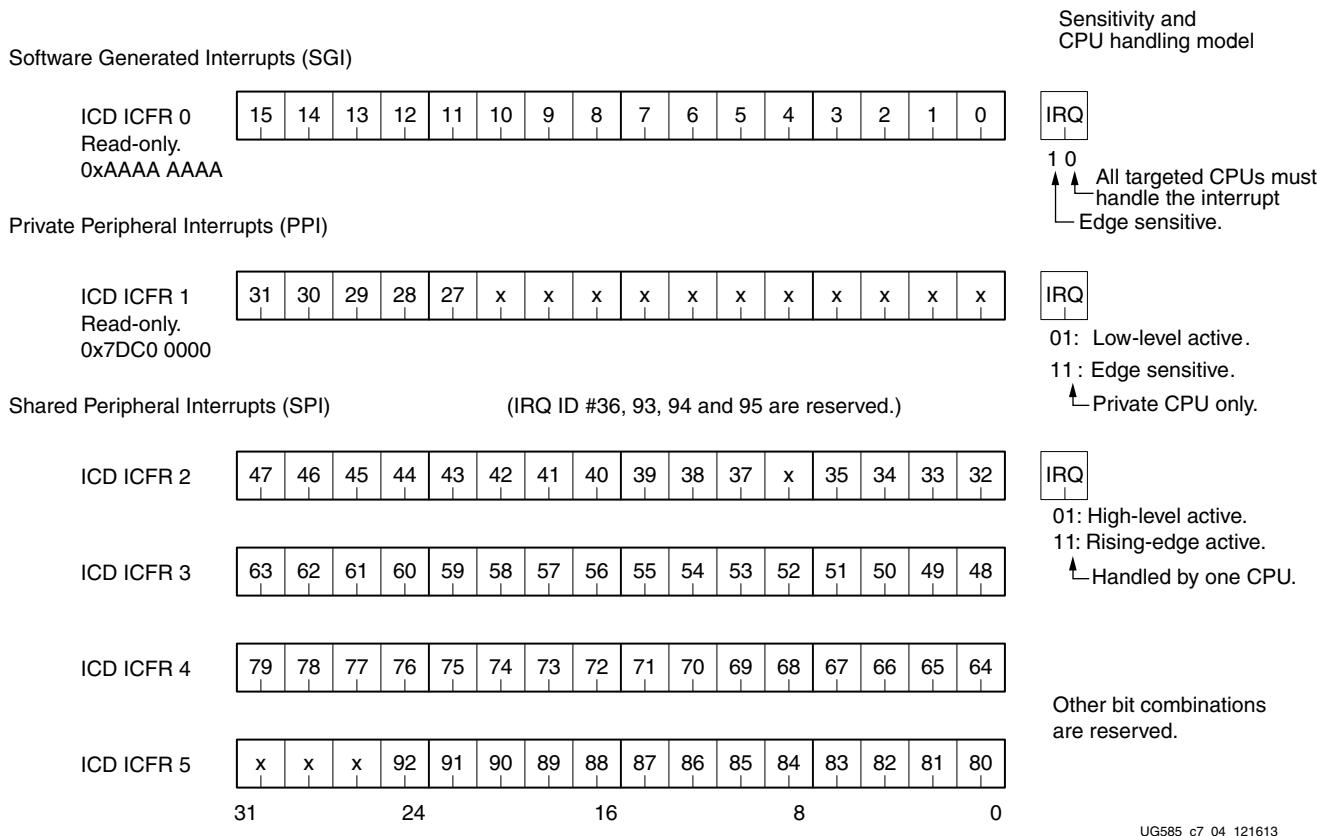
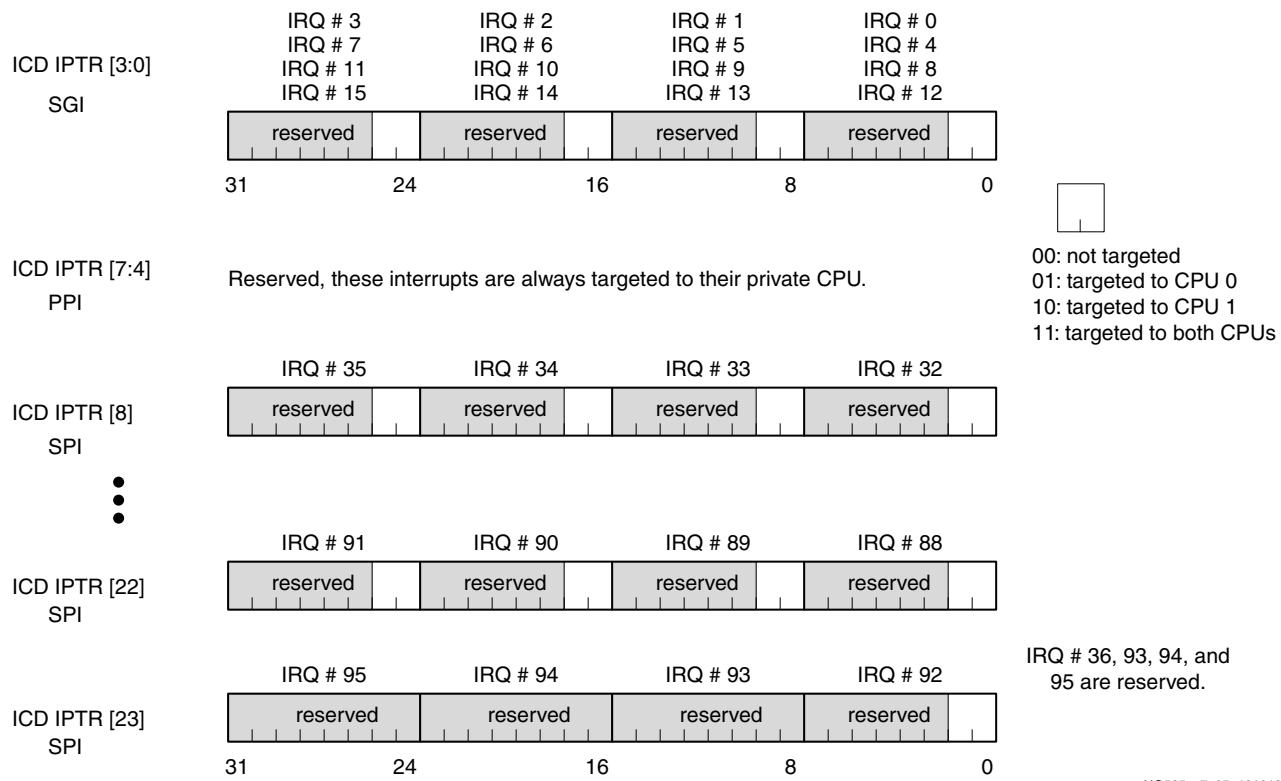

Figure 7-4: Interrupts ICDICFR Register for Sensitivity and Handling
Figure 7-5: Interrupts ICCIPITR Register for Targeting CPU
- mpcore.ICDICFR[5:0] registers: sensitivity and handling. See Figure 7-4.
- mpcore.ICDIPTR[23:0] registers: targeting CPU(s). See Figure 7-5.
The SGI interrupts are always edge sensitive and are generated when software writes the interrupt number to ICDSGIR register. All of the targeted CPUs defined in the ICDIPTR [23:8] must handle the interrupt in order to clear it. See Figure 7-4 and Figure 7-5.